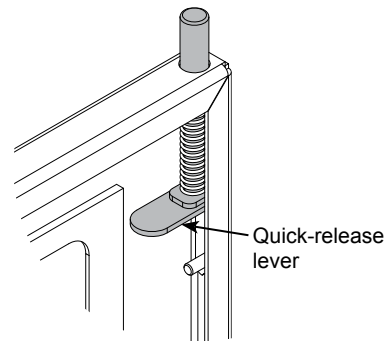

Figure 2B
3. Push down the quick-release lever, align the upper hinge point, then release the lever. **Figure 2B.**